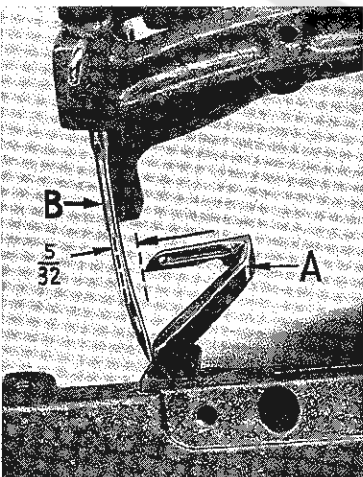

Fig. 3
The looper gauge is the distance between the point of the looper (A, Fig. 3) and the center of the needle (B) when the looper is in its extreme position to the right. This distance should be $5/32$ " (Fig. 3).